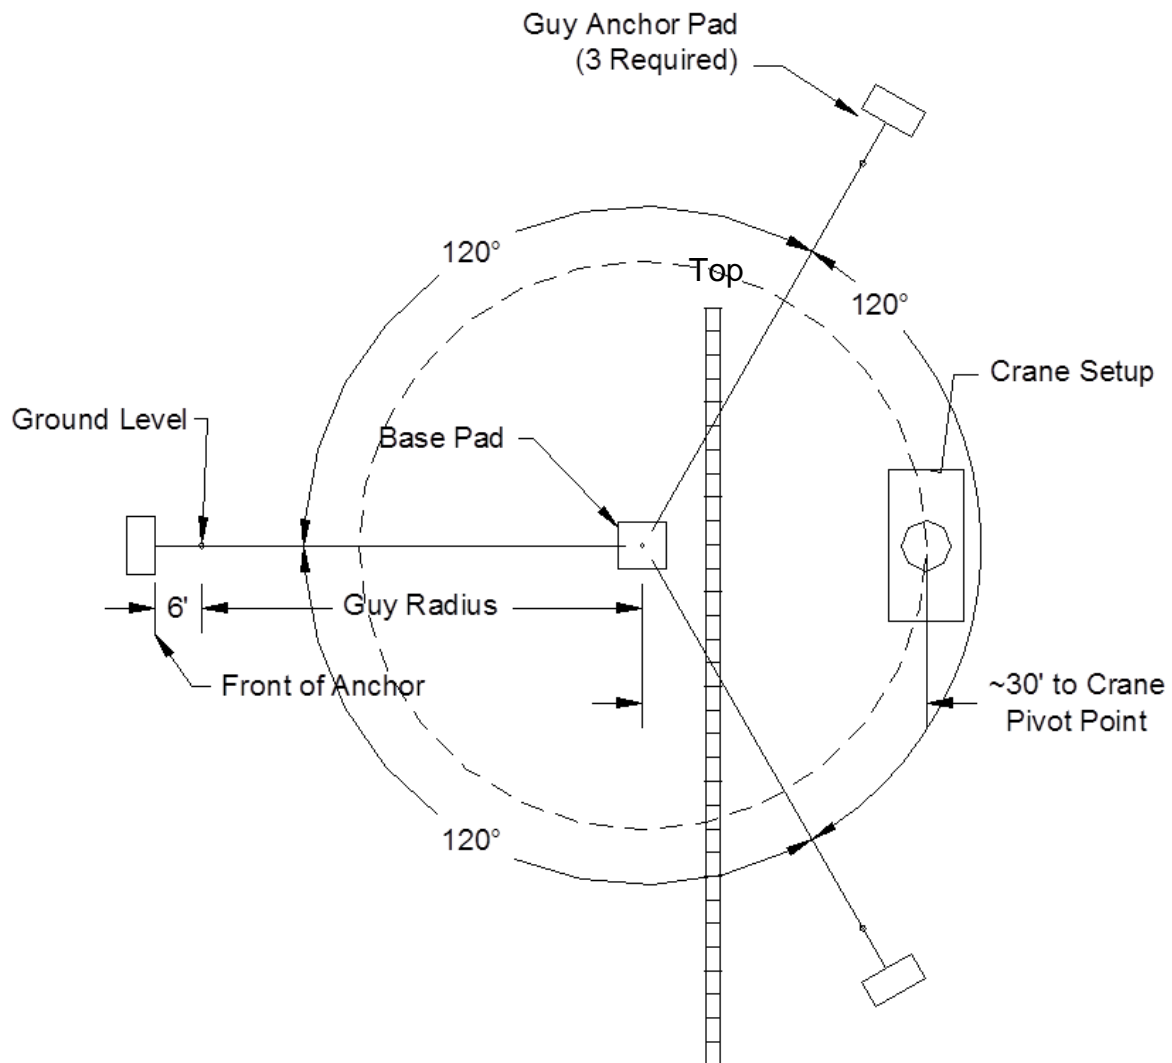

Figure 6: Construction Site Layout Plan View for 60'-140' towers
Figure 6 (60'-140' tower) or **Figure 7** (160' tower). Plan to lay the tower sections out in a line so that the lift point of the tower is roughly in line with the base pad. Plan for the crane to set up approximately 30'-35' from the base pad, in line with one of the anchors. The tower should be assembled between the crane and the base pad.
- b. The working radius of the lift (measured from the pivot point of the crane to the base pin of the tower). This value shall be measured on site as the shortest distance to the base pin the crane pivot point can access. The ideal radius for tower installation is approximately 30' (shown in Figure 6).
- c. **Figure 6).**